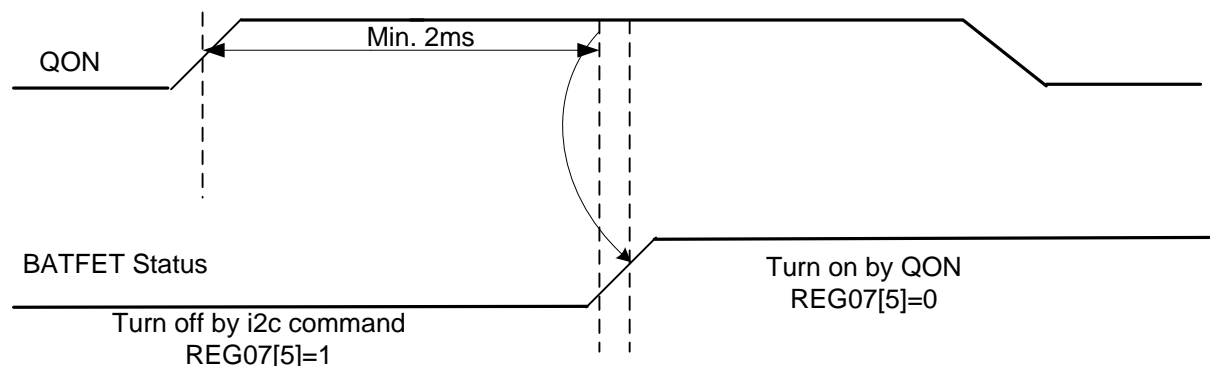

图 11. QON Timing
5. A logic low to high transition on QON pin (refer to 图 11 for detail timing)